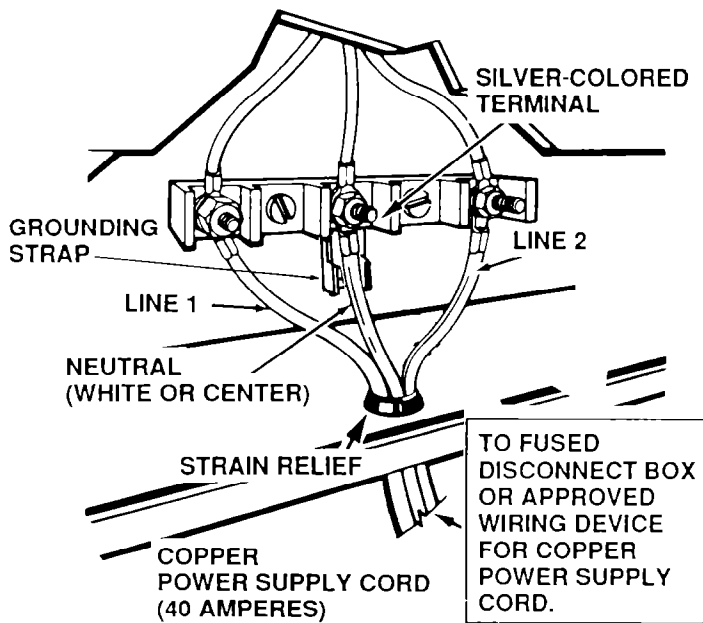

FIGURE 2
C. Connect the neutral wire of the copper power supply cord to the center silver-colored terminal of the terminal block and connect the other wires to the outer terminals. See Figure 2.